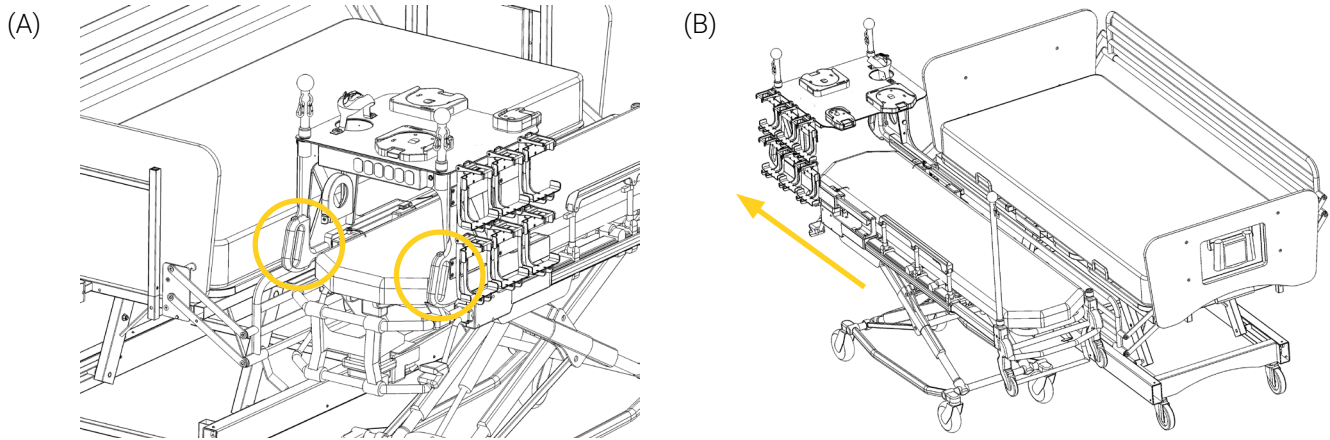

Figure 5: Mobile structure position before lateral transfer
8. Grab the mobile structure handles, then press and hold the quick release mechanisms (Figure 5 A).
9. Pull the mobile structure towards the patient foot end until you have reached the lock pins (Figure 5 B).